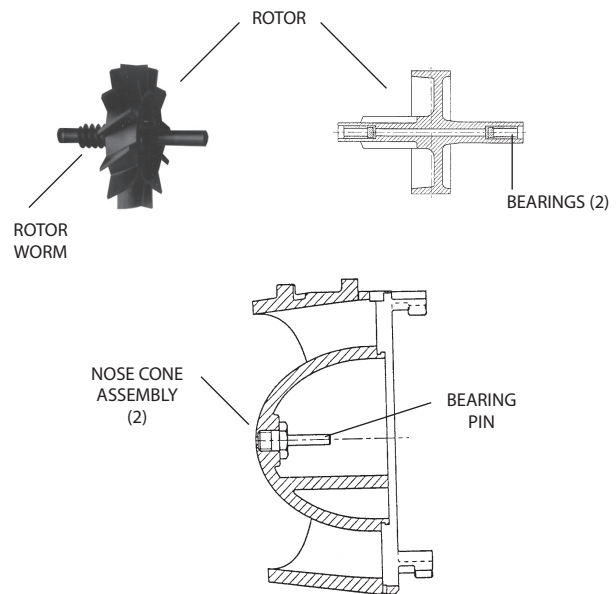

Figure 12: Rotor and nose cone assembly (2 in., 3 in., 4 in. and 6 in. turbo head assemblies)
2. Take hold of the nose cone/straightening vanes and turn them clockwise, thereby disengaging the calibration linkage from the tab on the calibration ring and unlocking the bayonets of the nose cones from the cage (see Figure 12 on page 12).
Check the rotor worm and blades for signs of damage and wear. Also inspect the bearing bushings in the front and rear shaft. If damage or wear has occurred, replace the part (see *Figure 12*). If water deposits are found, remove any mineral deposits from the rotor blade surfaces, cage insert interior diameter, and nose cone vanes and mating surfaces.
Inspect the rotor bearing pins in the straightening vane and nose cone assembly for signs of damage and wear (see *Figure 12*). The spherical end of the bearing pin must not show any drag lines and/or wear.